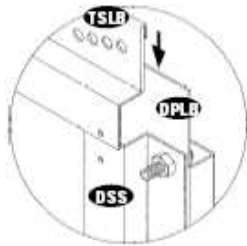
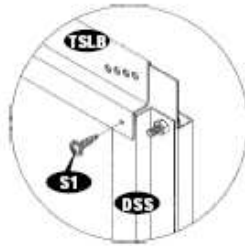

Fig.1
Fig.2
10. Assemble the door panel strip (TSLB) with door pane. Make sure the door panel top edge to be inserted into the (TSLB). See fig.1. Secure the (TSLB) to the (DSS) with (S1) screws. See fig. 2. Secure the other end through the door panel to the (DSCB) with (S1) screws. See fig. 3.